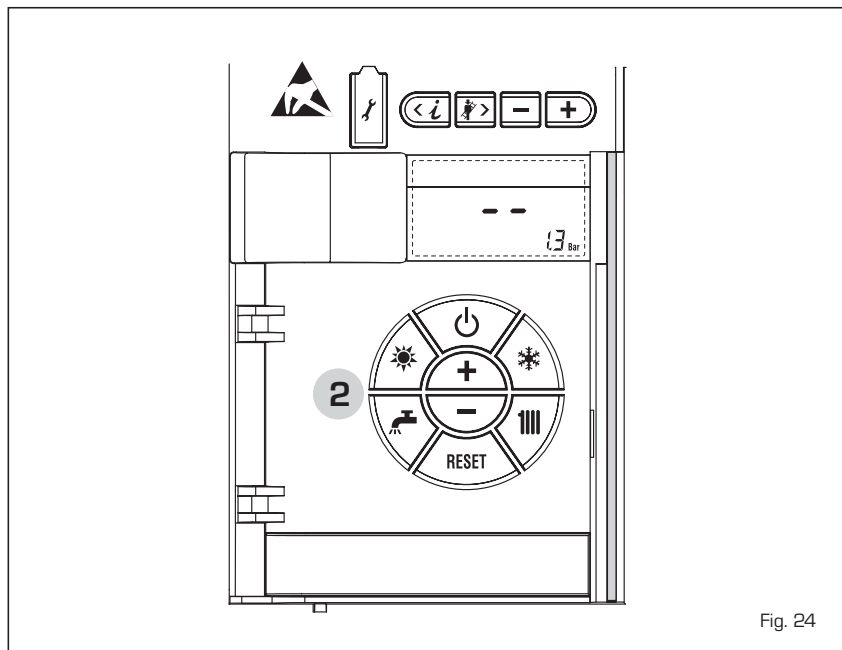

Fig. 24
### BOILER IGNITION (fig. 24)
### TO SWITCH OFF THE BOILER (fig. 24)
In the case of a short absence, press the key ( ) of the controls (pos. 2). The display will be as shown in the fig. 24. In this way, leaving the electricity and the fuel supply connected, the boiler is protected from frost and from the pump becoming blocked. If the boiler is not used for a prolonged period, it is advisable to disconnect the electricity supply, by switching off the main switch of the system, and to close the gas tap and, if low temperatures are expected, to completely empty the hydraulic circuits to avoid pipes being broken by the formation of ice in the pipes.